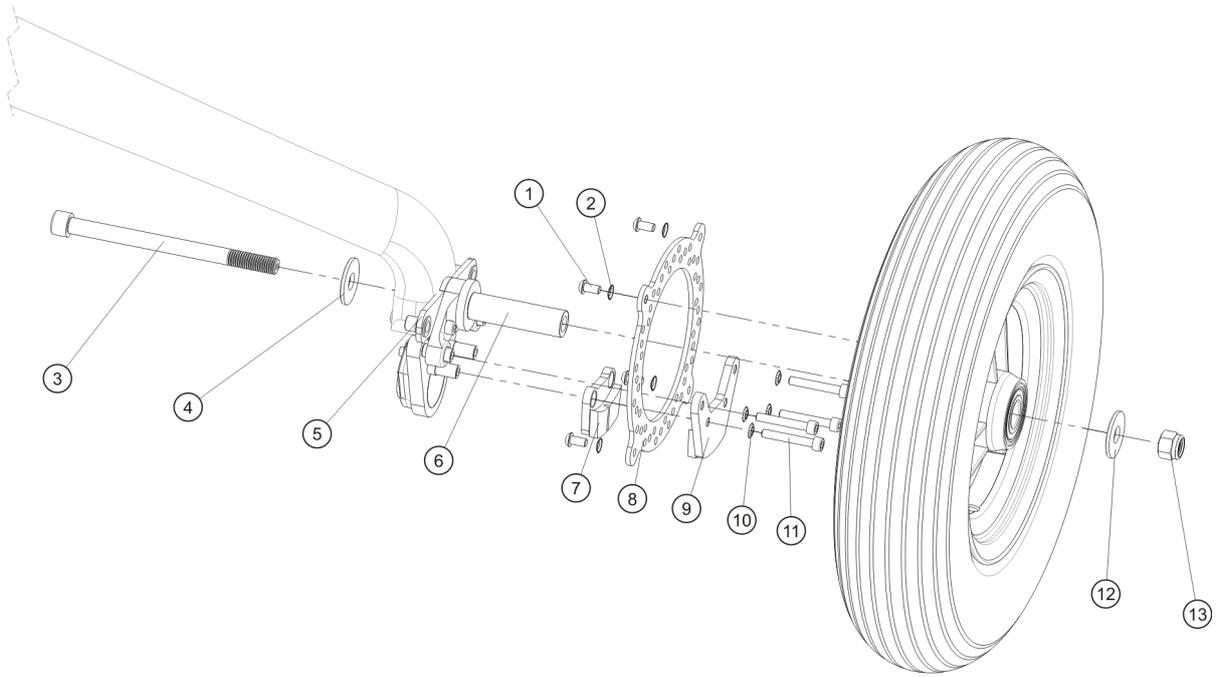

Fig. 2 - Main gear, wheel and brake
- 11 Torque-tighten bolts (Fig. 2, 1) with 10 Nm in crosswise sequence.
- 12 Install new self-locking nut (Fig. 2, 13) with washer (Fig. 2, 12) and torque-tighten with 50 Nm.